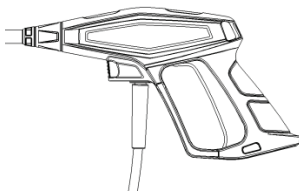

Figure 10
3. Release the trigger lock. See figure 10.